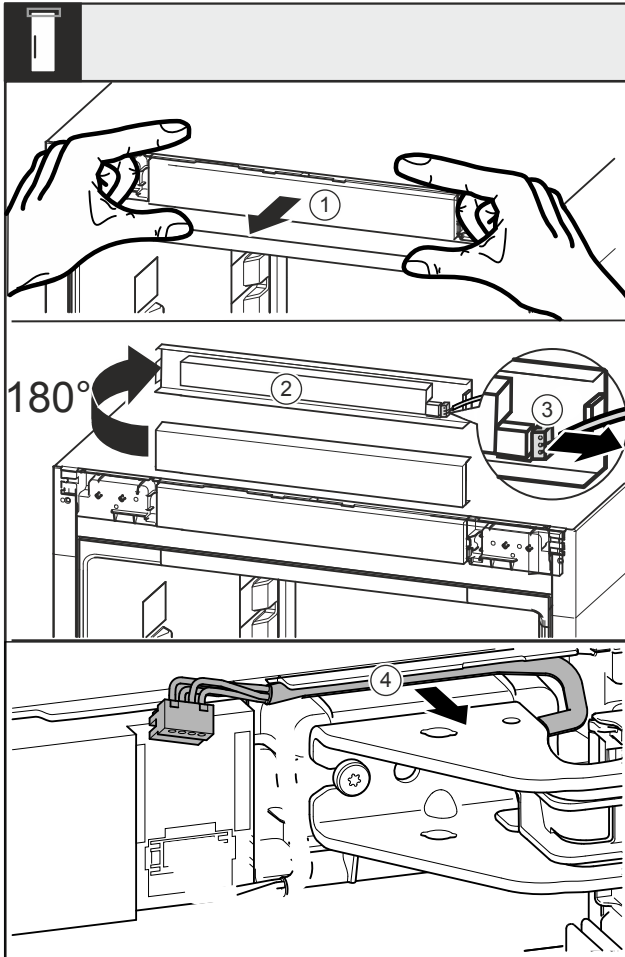

Fig. 15
- ▶ Loosen the faceplate Fig. 15 (1) toward the front.
- ▶ Turn the faceplate Fig. 15 (2) upward by 180°.
- ▶ Press the latching tab on the plug Fig. 15 (3) backwards and carefully pull out the plug.
- ▶ Loosen the cable Fig. 15 (4) above the swap bearing block from the guide.